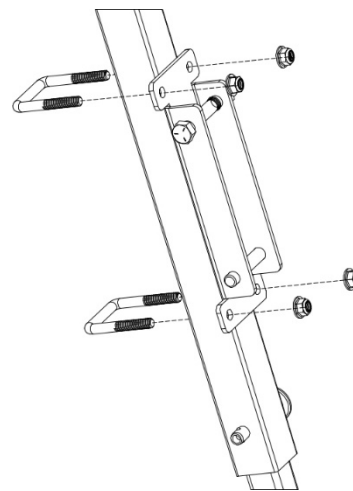

Figure 6
Figure 6 – Attaching the Accessory Bracket	7
4. Depending on the unit configuration, bolt one or two accessory brackets, (Reliance P/N 4511-1) onto a leg that is in line with a pulley assembly in the head. The bracket may be positioned anywhere on the outer (larger) portion of the leg as long as it does not impede either the locking pin or the detent ball. Position the bracket in the center of the leg with the cross pin on the lower end and tighten the four lock nuts to 15-20 ft-lbs (Figure 6)(Some deformation of the bracket is normal).